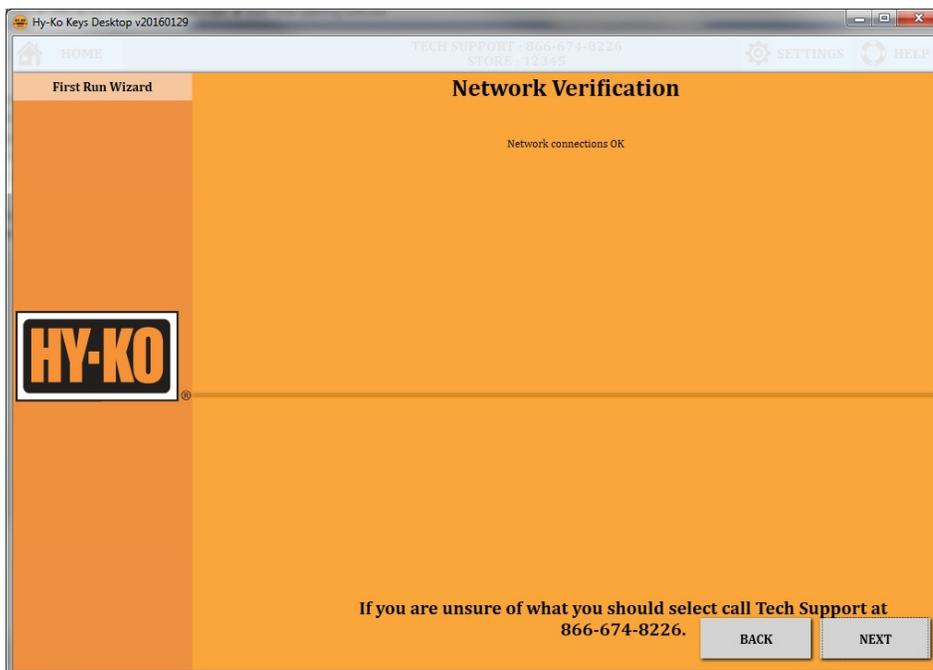

fig. 10
- Once the network connections have been verified click **'NEXT'** (see fig. 10).